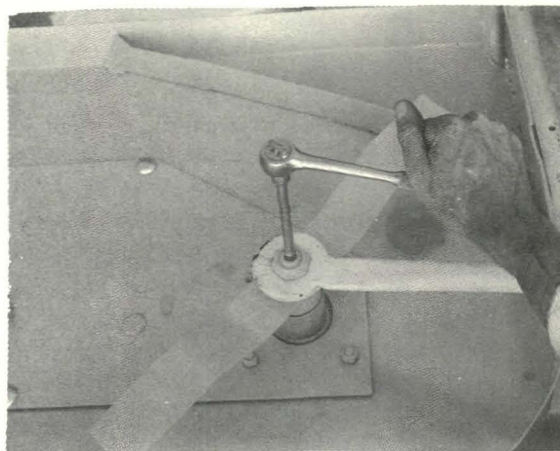

fig 9
3. BLADE REMOVAL: STOP the engine, Put the PTO in the OUT position. Put the operating levers in NEUTRAL. BE SURE the blades have stopped. Remove the mower from the tractor. Turn the mower upside down. Hold the rotor shaft with a 3/8" socket drive and remove the nut with a 15367E1 Gravelly Wrench or equivalent, fig 9. Do not use the top spindle nut to hold the spindle from turning.
7. **BELT REMOVAL:** Remove the belt covers. Unhook one end of each spring; use a spring puller or clamp-lock pliers. Remove the drive. Remove the belts. See figs 2, 3, & 4. fig 1, Item 14 and 15. Hold the rotor shaft with a 3/8" socket drive and torque the nut to 100 ft. lbs. Similar tightness can be reached with a Gravelly 11367E1 Wrench or any 16" length handle wrench when used by an average man, fig 9.